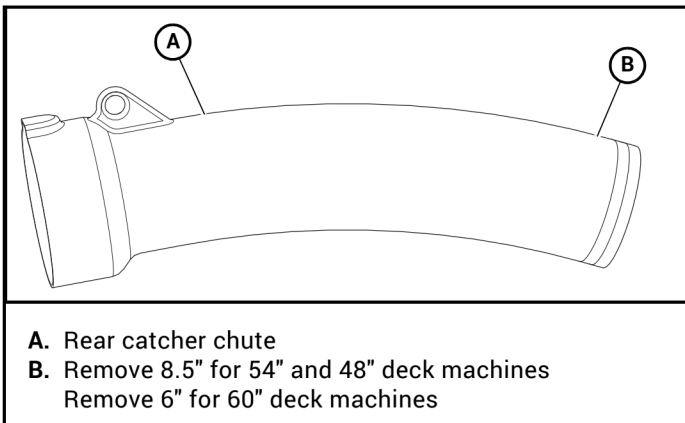
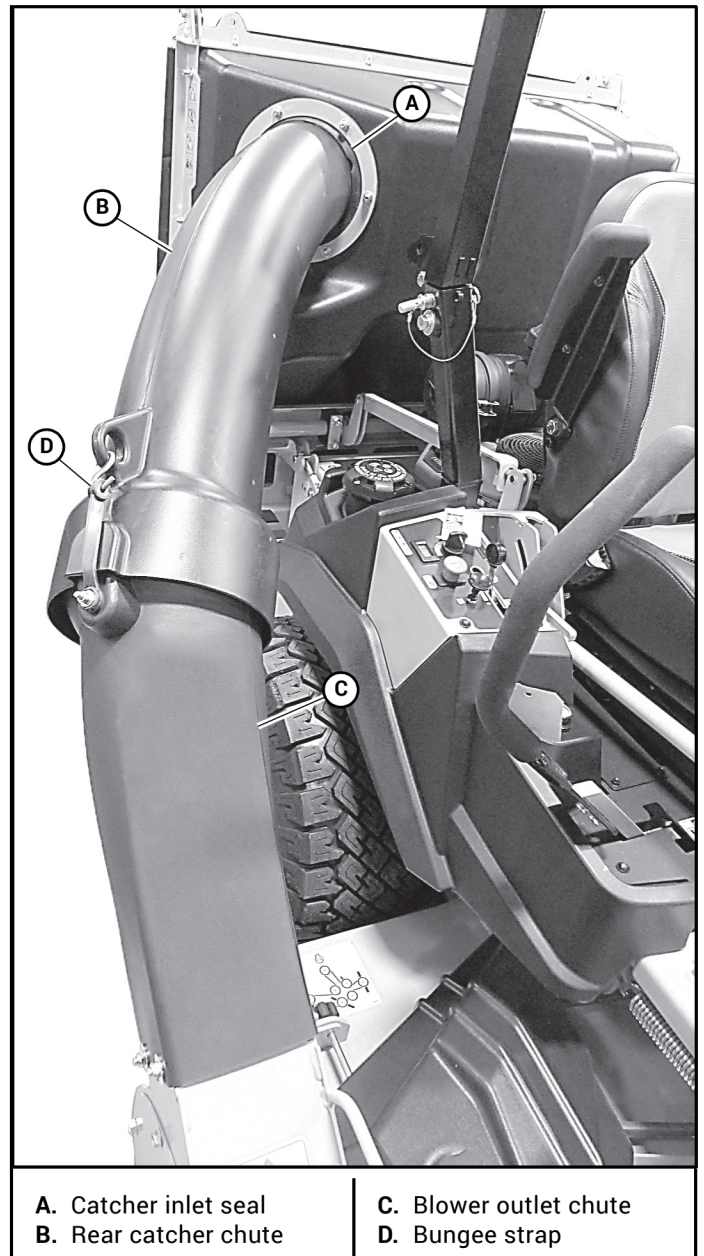

Figure 3-31
Figure 3-32
38. Trim the back of the rear catcher chute 6" when installed on a 60" deck machine. Trim 8.5" on a 54" or 48" deck machine. Figure 3-32 & Figure 3-31
39. Install rear catcher chute. The chute should not pull out of the inlet seal on the catcher when the deck is in the lowest position, and should have enough room that it can be removed from the machine in the event of a clog or needing cleaned. Secure with the bungee strap. Figure 3-32